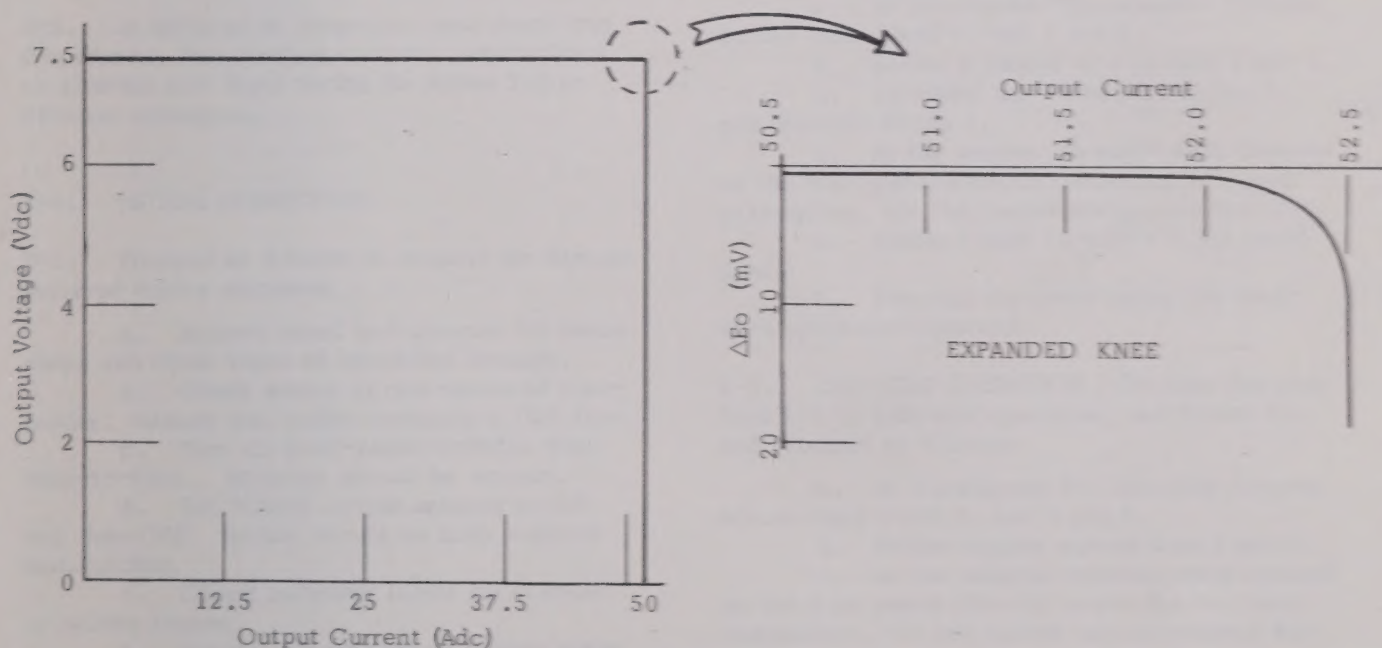

Figure 1-2. Current-Limit Characteristics
Output Ratings	Voltage Range (Vdc) Resolution (typical) (mV) (2) Current Range at 50°C (A dc) (2) Current Limit Range (A dc) Regulation Voltage (combined line & load) Current for line or load) See Fig. 1-2. Max. RMS ripple voltage at 50-60 Hz Max. peak-to-peak at 50-60 Hz Transient Response (typical) (4) Turn-On, Turn-Off Output Voltage Overshoots Ambient Temperature Range Remote Programming